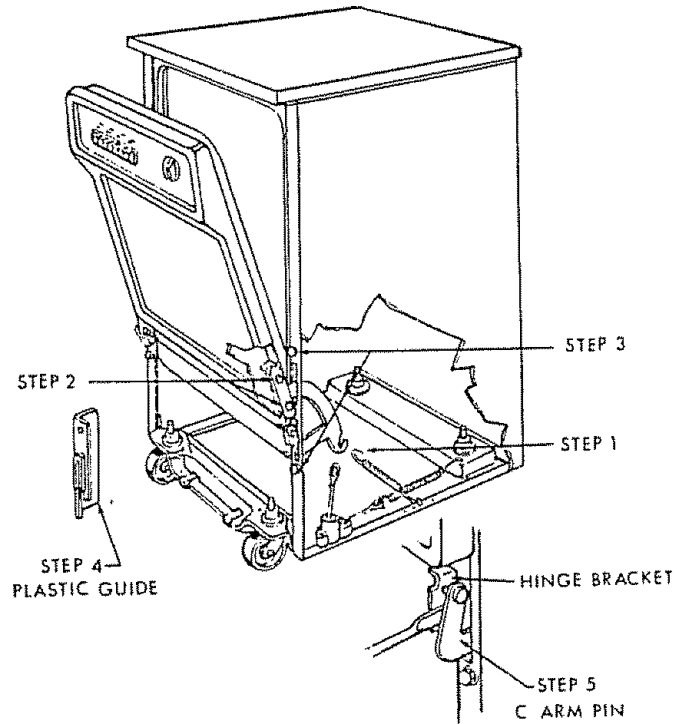

FIGURE 76
1. Remove spring and cable from "C" arm (Figure 76)
2. Remove two (2) screws that hold "C" arm to inner door.
3. Remove bottom two (2) screws holding hinge bracket assembly to wrapper.